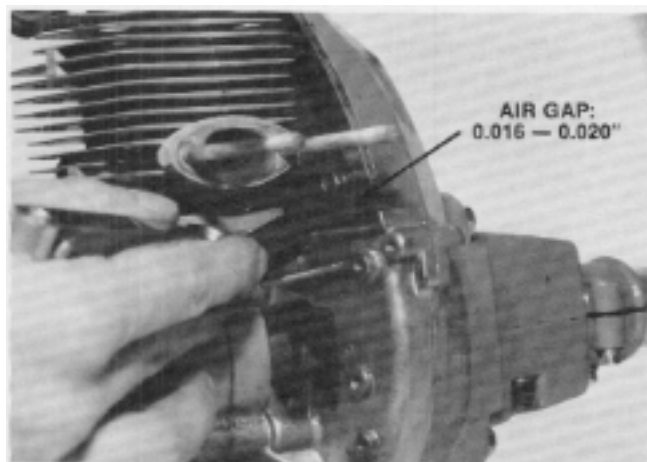

Figure 62
2. Insert a feeler gauge between the coil and the flywheel near one of the coil mounting screws. See Figure 62. When the correct gap is achieved, tighten the screw with an 8 mm open end wrench. Repeat this procedure for the other coil mounting screw. This completes the air gap adjustment.